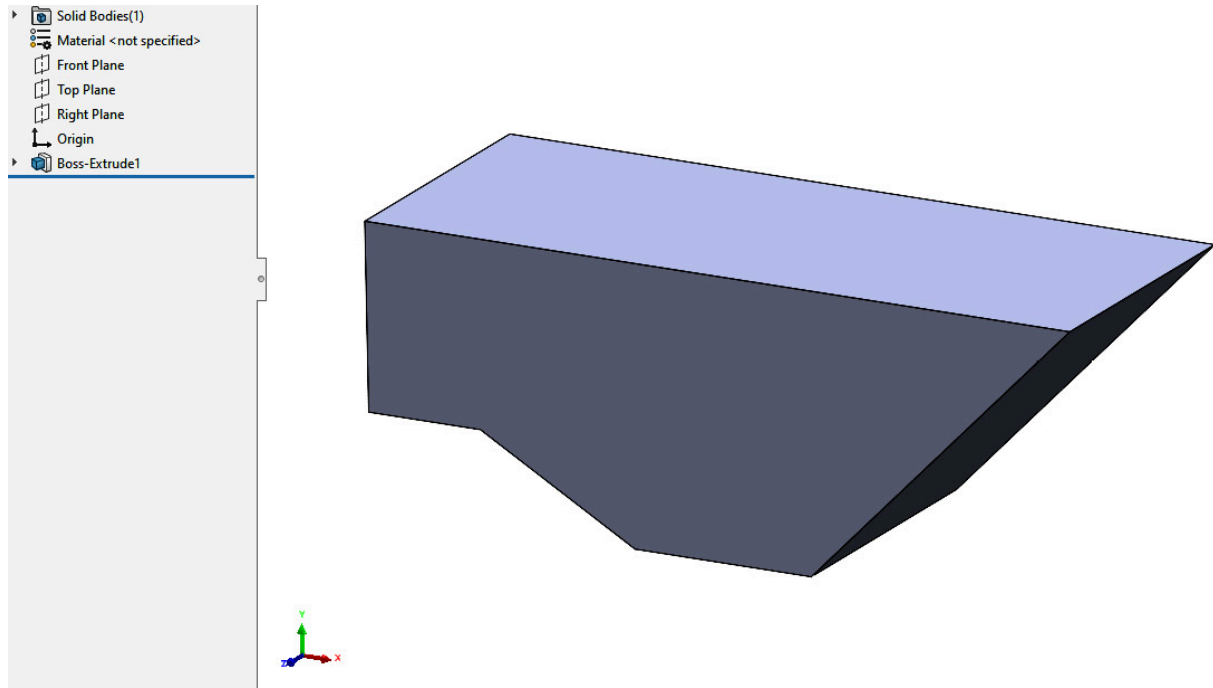

Figure 12.2: Extrude the sketch
2. Extrude the shape **75mm**, using the **Extruded Boss/Base** and the **Mid Plane** End Condition (Figure 12.2).